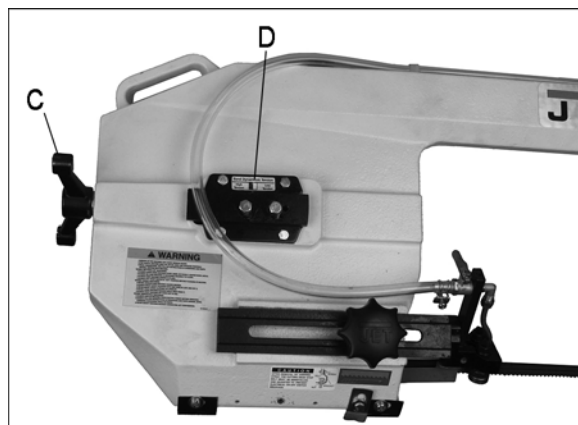

Figure 20
5. Loosen blade tension by turning handle (C, Figure 20) counterclockwise.
3. Lightly tension blade to remove any sag by turning handle (C, Figure 20) slightly clockwise.
4. Turn tension handle (C, Figure 20) 1-3/4 to two revolutions clockwise. This is equivalent to 800 kg (1764 lb) of blade tension.
8. Tighten blade by turning handle (C, Figure 20) two full revolutions.
**TIP:** Slacken blade tension when finished with operations, to prolong blade life. Make note of indicator position on tension label (D, Figure 20) for quickly returning tension to its previous setting.